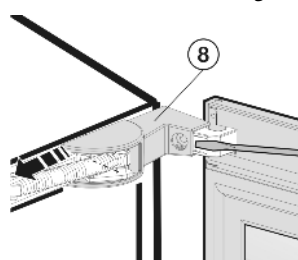

Fig. 5
- ▶ Carefully lift the cover of the turn hinge Fig. 5 (8) using a screwdriver and slide it forwards.
- ▶ Set the soft stop mechanism at an angle away from the appliance and remove the cover Fig. 5 (8).
- ▶ Re-engage the cover of the turn hinge Fig. 5 (8).